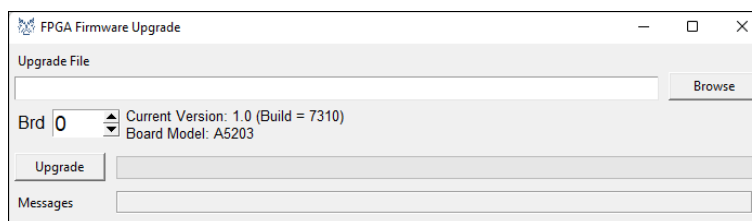

Fig. 3.4: FPGA firmware upgrade window.
- *Upgrade FPGA:* The command opens a window (see **Fig. 3.4**) that allows the user to browse the firmware file to upgrade the FPGA and to visualize the progress of the upgrade. Compliant firmware has .ffu extension.